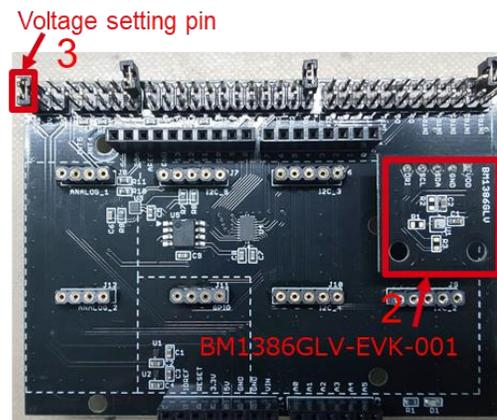

Figure 2. Connection between BM1386GLV-EVK-001 and the SensorShield
2. Connect BM1386GLV-EVK-001 to the socket of I2C area on the SensorShield (Figure 2)
3. Set Voltage of the SensorShield to 1.8V or 3.0V (Figure 2)